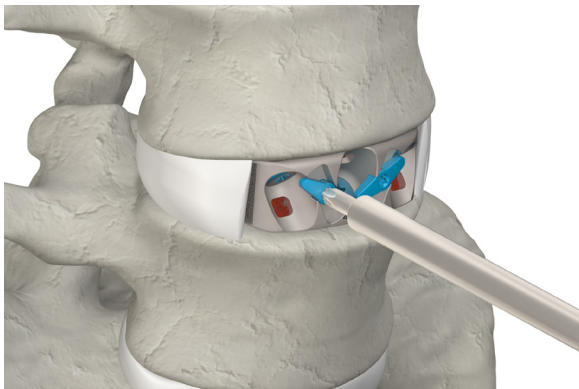
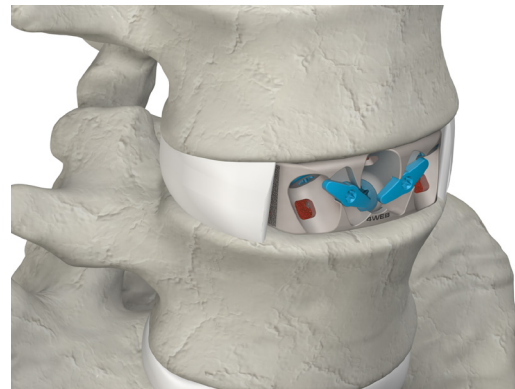

Figure 13
Figure 14
- ▲ Use the Anti Back Out Plate Driver to rotate the two Locking Plates approximately 90° (Fig. 13). The wings of the Locking Plate will stop against the recess on the anterior face of the interbody (Fig. 14).